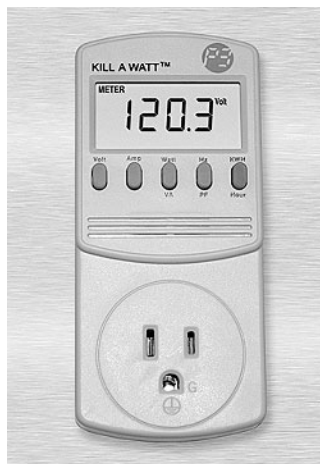

FIG. 3-8 A Kill-A-Watt reports voltage, frequency, and amperage, although the amperage function is limited. Courtesy of Kill-A-Watt
- *AC frequency meter.* Many DIYers judge frequency by engine rpm, but a professional-grade hertz meter gives far more precise results. One also might consider a Kill-A-Watt, an inexpensive little tool that also reports voltage and amperage (Fig. 3-8).